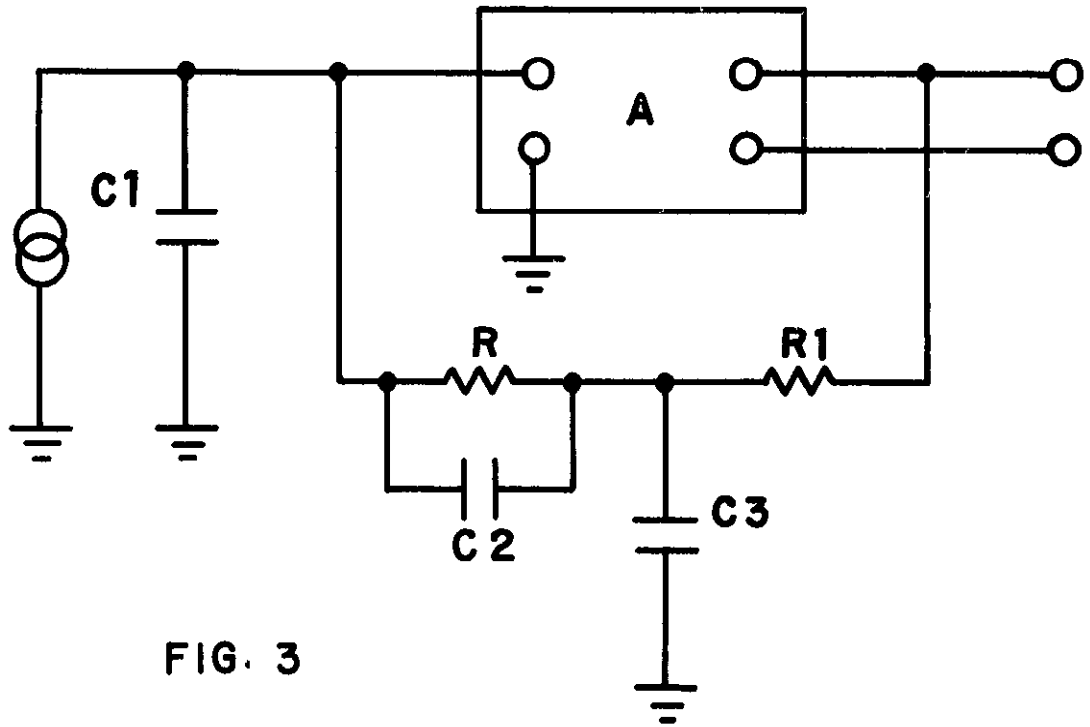

FIG. 3
To accomplish this, refer to Figure 3. R_1 and C_3 have been added to the feedback loop. If R_1C_3 now equals RC_2 , we have a "lead" network cancelling a "lag" network and effectively equation (3) becomes: